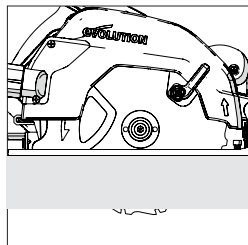

Fig. 12
- In most cases the cutting depth should be set at the thickness of the material to be cut plus the depth of half of a saw tooth (tip of the tooth to the tooth root). **(Fig.12)**
(13) CUTTING ANGLE (BEVEL) ADJUSTMENT